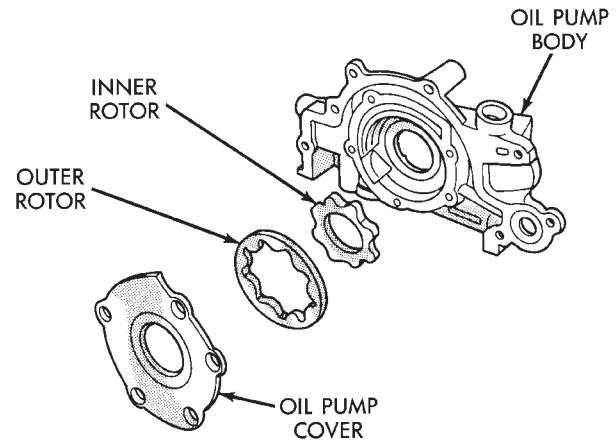

Fig. 86 Oil Pump
(4) Remove oil pump cover screws, and lift off cover.
(5) Remove pump rotors.
(6) Wash all parts in a suitable solvent and inspect carefully for damage or wear (Fig. 86).